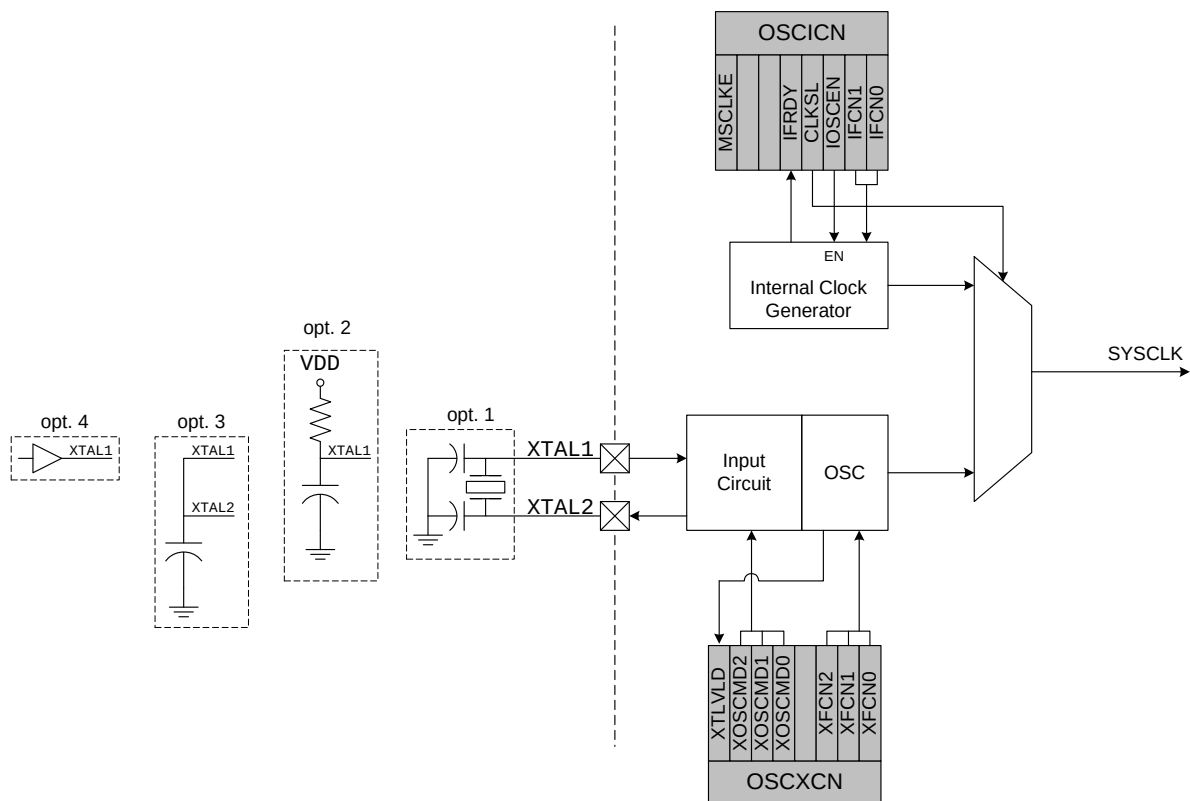

Figure 13.1. Oscillator Diagram
Both oscillators are disabled when the  $\overline{\text{RST}}$  pin is held low. The MCU can run from the internal oscillator permanently, or it can switch to the external oscillator if desired using CLKSL bit in the OSICN Register. The external oscillator requires an external resonator, crystal, capacitor, or RC network connected to the XTAL1/XTAL2 pins (see Figure 13.1). The oscillator circuit must be configured for one of these sources in the OSICN register. An external CMOS clock can also provide the system clock by driving the XTAL1 pin. The XTAL1 and XTAL2 pins are NOT 5 V tolerant.
**CRYSTAL MODE** (Circuit from Figure 13.1, Option 1; XOSCND = 11x)
**RC MODE** (Circuit from Figure 13.1, Option 2; XOSCND = 10x)
**C MODE** (Circuit from Figure 13.1, Option 3; XOSCND = 10x)
If a crystal were used to generate the system clock for the MCU, the circuit would be as shown in Figure 13.1, Option 1. For an ECS-110.5-20-4 crystal, the resonate frequency is 11.0592 MHz, the intrinsic capacitance is 7 pF, and the ESR is 60 W. The compensation capacitors should be 33 pF each, and the PWB parasitic capacitance is estimated to be 2 pF. The appropriate External Oscillator Frequency Control value (XFCN) from the Crystal column in the table in SFR Definition 13.2 (OSCXCN Register) should be 111b.
If an external RC network were used to generate the system clock for the MCU, the circuit would be as shown in Figure 13.1, Option 2. The capacitor must be no greater than 100 pF, but using a very small capacitor will increase the frequency drift due to the PWB parasitic capacitance. To determine the required External Oscillator Frequency Control value (XFCN) in the OSCXCN Register, first select the RC network value to produce the desired frequency of oscillation. If the frequency desired is 100 kHz, let R = 246 kW and C = 50 pF:
If an external capacitor were used to generate the system clock for the MCU, the circuit would be as shown in Figure 13.1, Option 3. The capacitor must be no greater than 100 pF, but using a very small capacitor will increase the frequency drift due to the PWB parasitic capacitance. To determine the required External Oscillator Frequency Control value (XFCN) in the OSCXCN Register, select the capacitor to be used and find the frequency of oscillation from the equations below. Assume  $V_{DD} = 3.0 \text{ V}$  and  $C = 50 \text{ pF}$ :